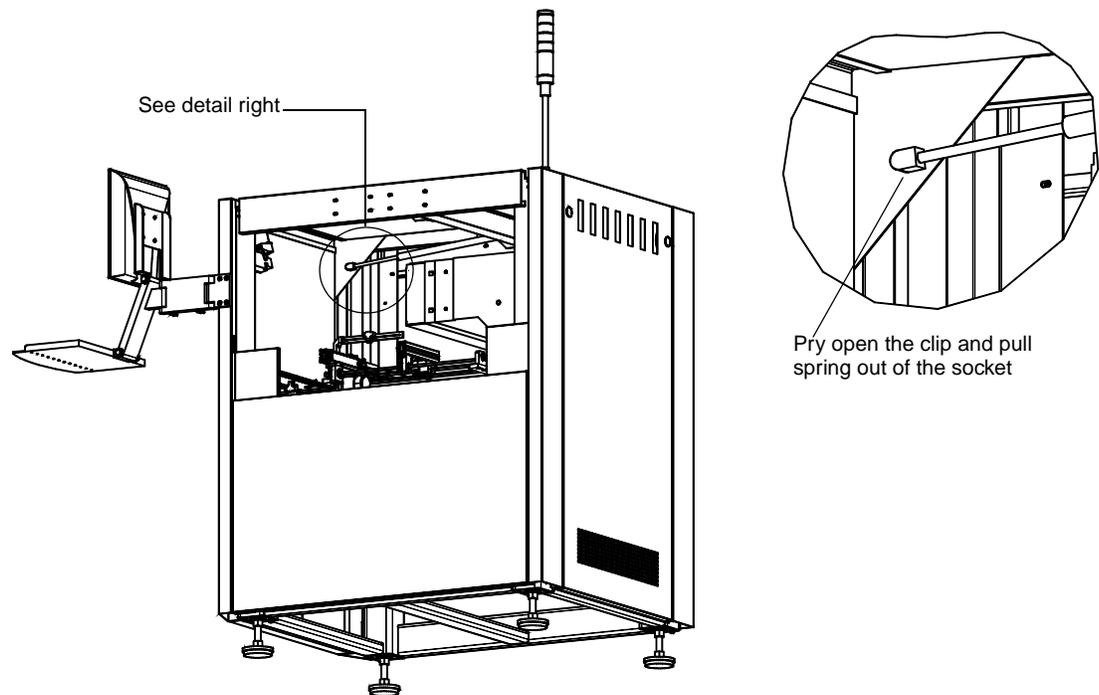

Figure 61. Hood Spring Attachment
2. Locate the connection where the hood spring attaches inside the hood, toward the front of the machine (see Figure 61).